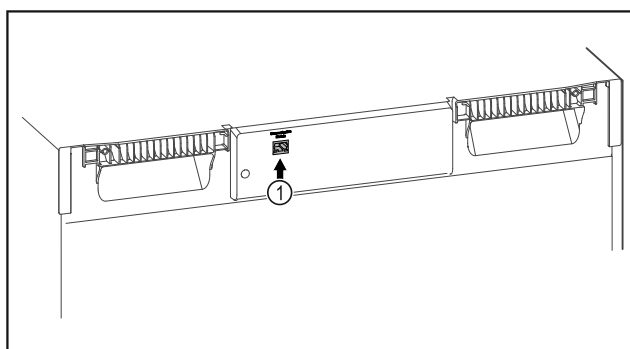

Fig. 85
- SmartModule Fig. 85 (1) is in use.